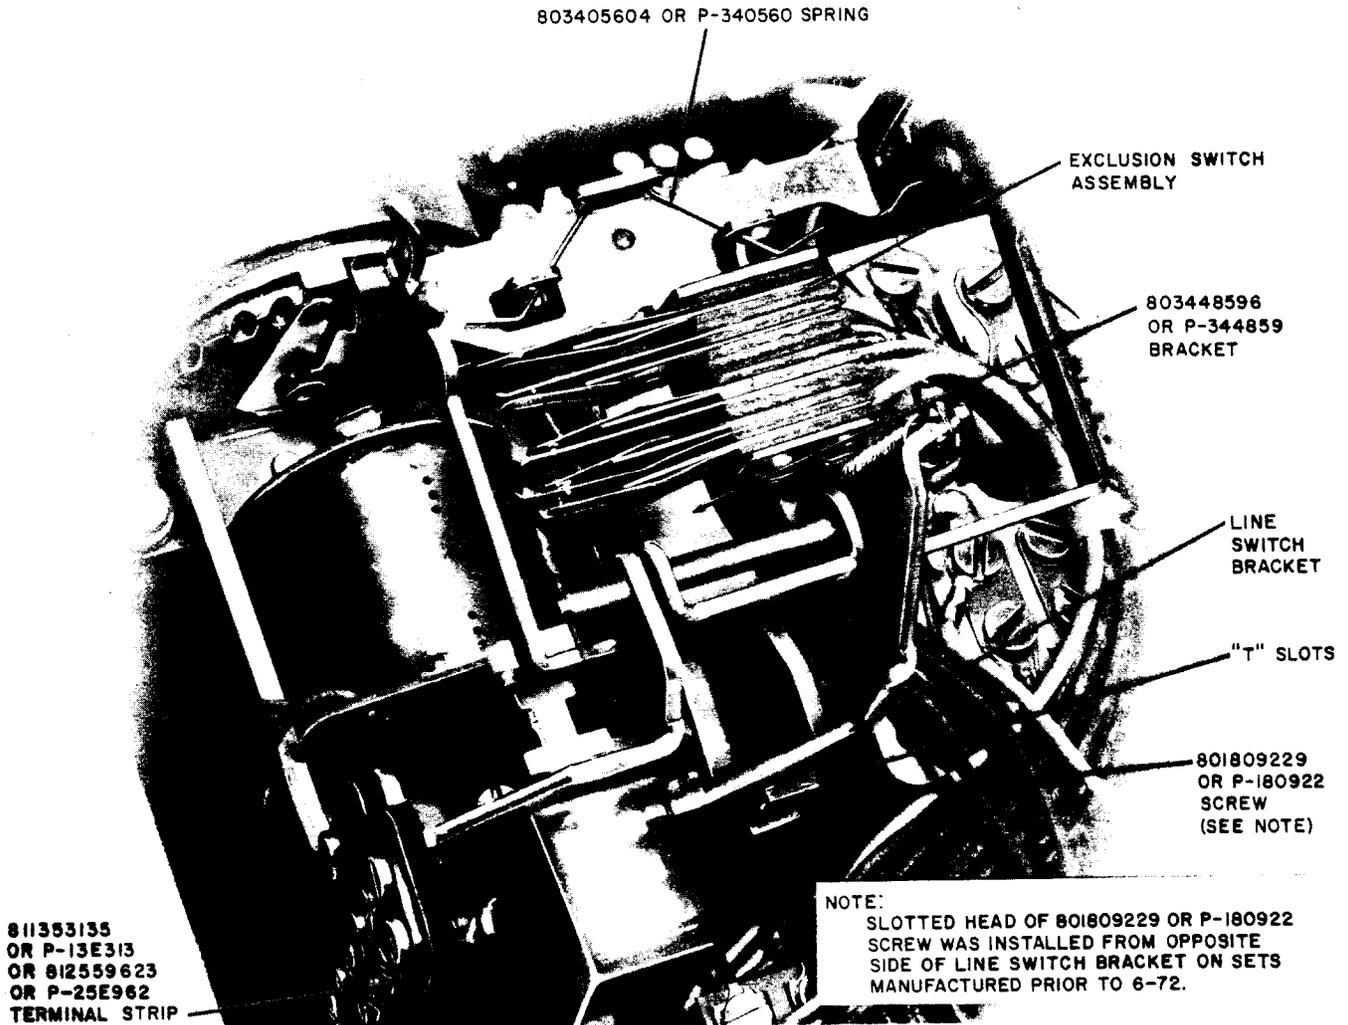

Fig. 6—D-179935 Exclusion Kit, Installed
2.08 Install exclusion kit as follows (Fig. 6):
**2.27** These auxiliary terminal strips are attached to the line switch bracket as shown in Fig. 6.